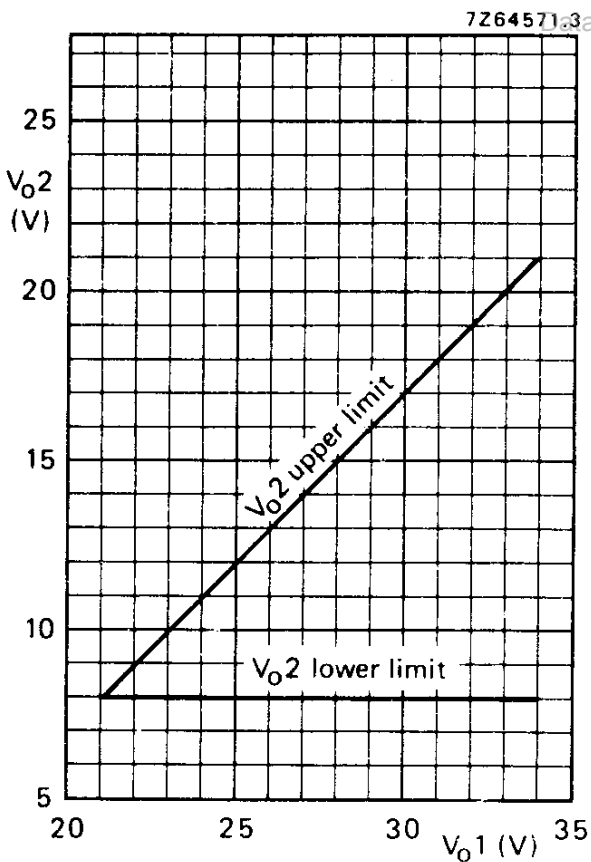

Fig. 6 Range of values for  $V_{O2}$ .
10.  $V_{O2}$  depends on the value of  $V_{O1}$  (see Fig. 6); adjustable with  $RA_2$ .